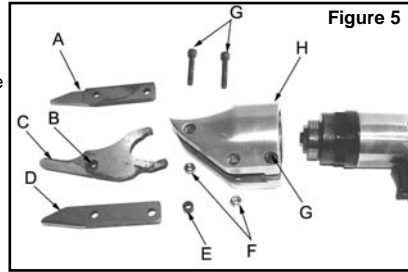

Figure 5
NOTE: Refer to Figure 5 for steps 2-11.
- Remove the front 2 allen screws that hold the blades in place, being careful not to loose the spacers (B & E) or the nuts (F) that are on the end of the screws.
- Remove the 2 side blades (A & D), center blade (C) and spacers (B & E).
- Lay out the new blades as shown in Figure 5.
- Lubricate and then insert spacer (B) into the center blade (C).
- Reassemble the blades into the cutting head by placing the center blade (C) on top of side blade (A) then place side blade (D) on top of center blade (C).